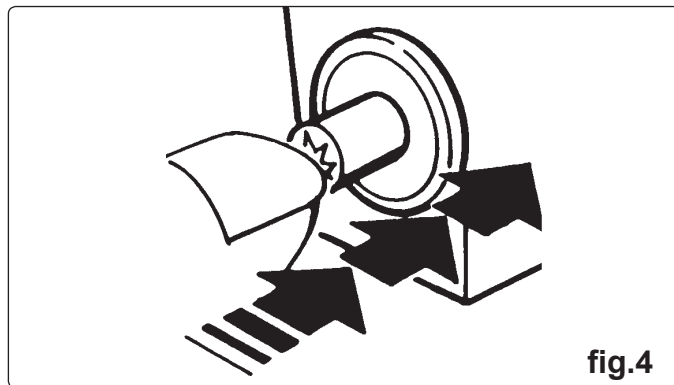

fig.4
4.1.3 After the flame ignites, and the heater starts, keep the gas valve button pushed in for a further 10 seconds and then release it (fig.4).